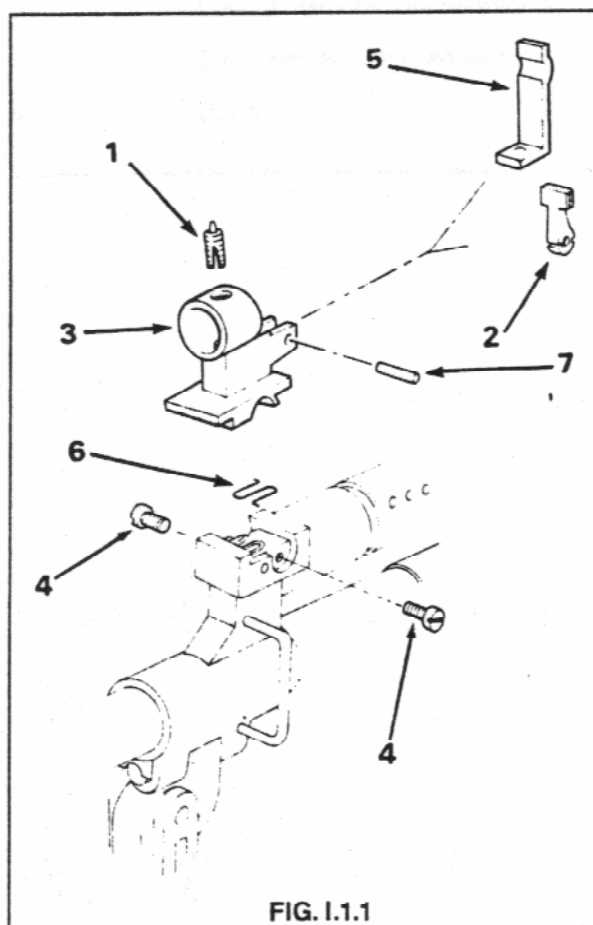

FIG. I.1.1
3. The front sight assembly consists of the following components, as illustrated in Fig. I.1.1.